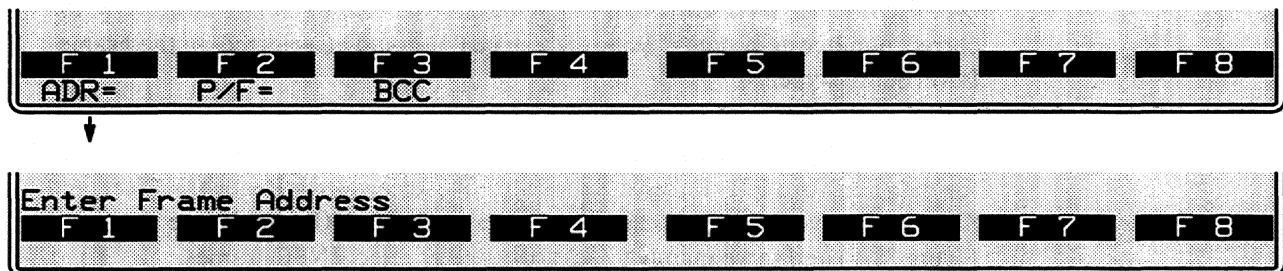

Figure 39-11 The hex value of the address byte is entered as two alphanumerics for all frame types.
5. *Address.* An address condition may be added to INFO, supervisory, unnumbered, and OTHER conditions. Press the softkey for ADR=, shown in Figure 39-11. Then enter the hexadecimal address octet as two alphanumerics. The address octet c_1 , for example, appears as follows:
To bypass the ADR= selection (as well as the other options on the same rack of softkeys in Figure 39-11) press **Done**.